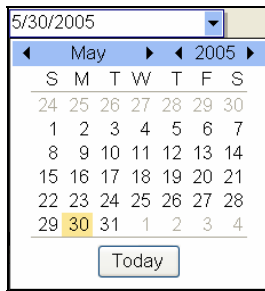

Figure 34.0.6
- Click on the drop down arrow to select a date. This will reveal the calendar to choose a specific date (Figure 34.0.6).